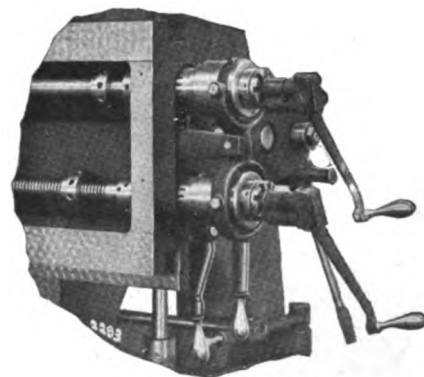

FIG. 14. SAFETY CRANK HANDLES IN POSITION ON CROSS FEED ROD AND VERTICAL FEED ROD
**SAFETY DEVICES**—Colburn mills are provided with numerous devices for insuring the safety of both machine and operator. Friction feed clutches serve to prevent overloading the feed mechanism. Gears and other running parts are covered with guards. The belt is shifted by a mechanical device. Automatic releasing safety crank handles, one on the cross feed screw and one on the rod for vertical feed, are used at the ends of cross rail. As they disengage automatically the instant the hand is removed, there is no danger of the operator being struck by them when operating the power rapid traverse. Fig. 14 shows handles in position on one end of the cross rail. They can be put on or taken off instantly. Both operators and employers will appreciate this unusual feature.